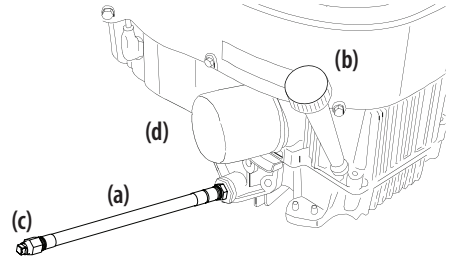

Figure 36
3. While holding the free end of the oil drain hose over the oil collection container, unscrew the square head hose plug (c) from the end of the oil drain hose. See Figure 36. Drain the engine oil into the collection container.